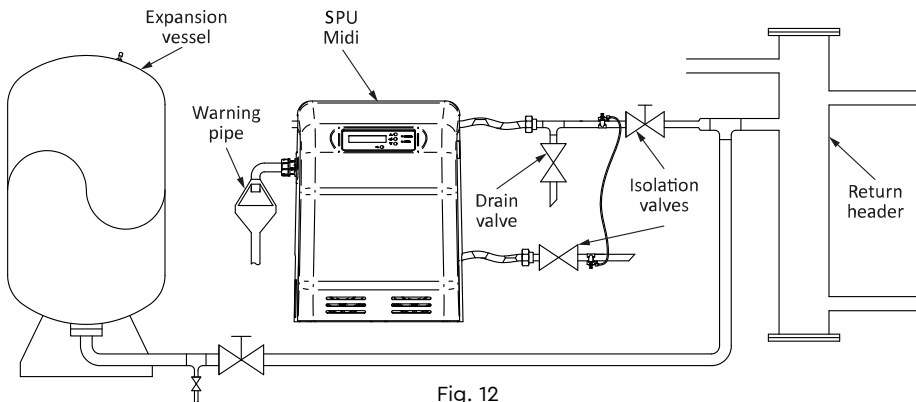

Fig. 12
2. Isolating valves **MUST** be installed on the unit inlet and outlet before connection to the flexible hoses to allow the unit to be isolated if required. The isolation valve on the outlet should be of a lock-shield type. See Fig. 12.
3. A drain valve must be fitted on the outlet of the SPU Midi before the isolation valve. See Fig. 12.
9. The SPU Midi should be connected to the system return header along with the expansion vessels as specified in BS 7074. See Fig. 12.